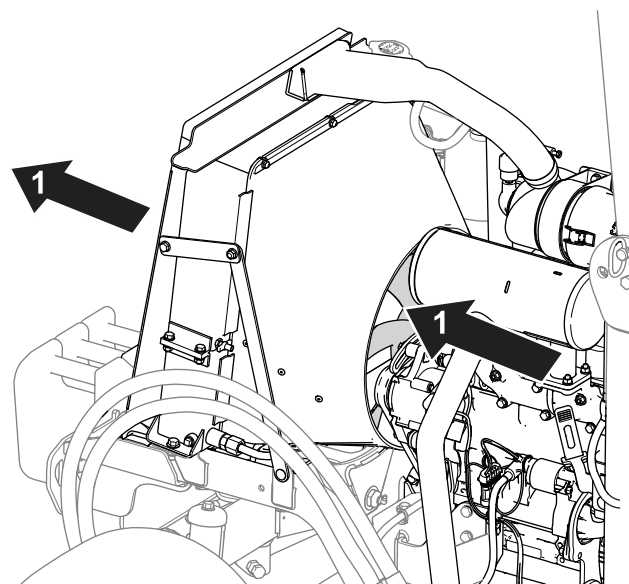

Figure 74
- Use compressed air to clean the radiator fins. Direct the air out from the machine (Figure 74).